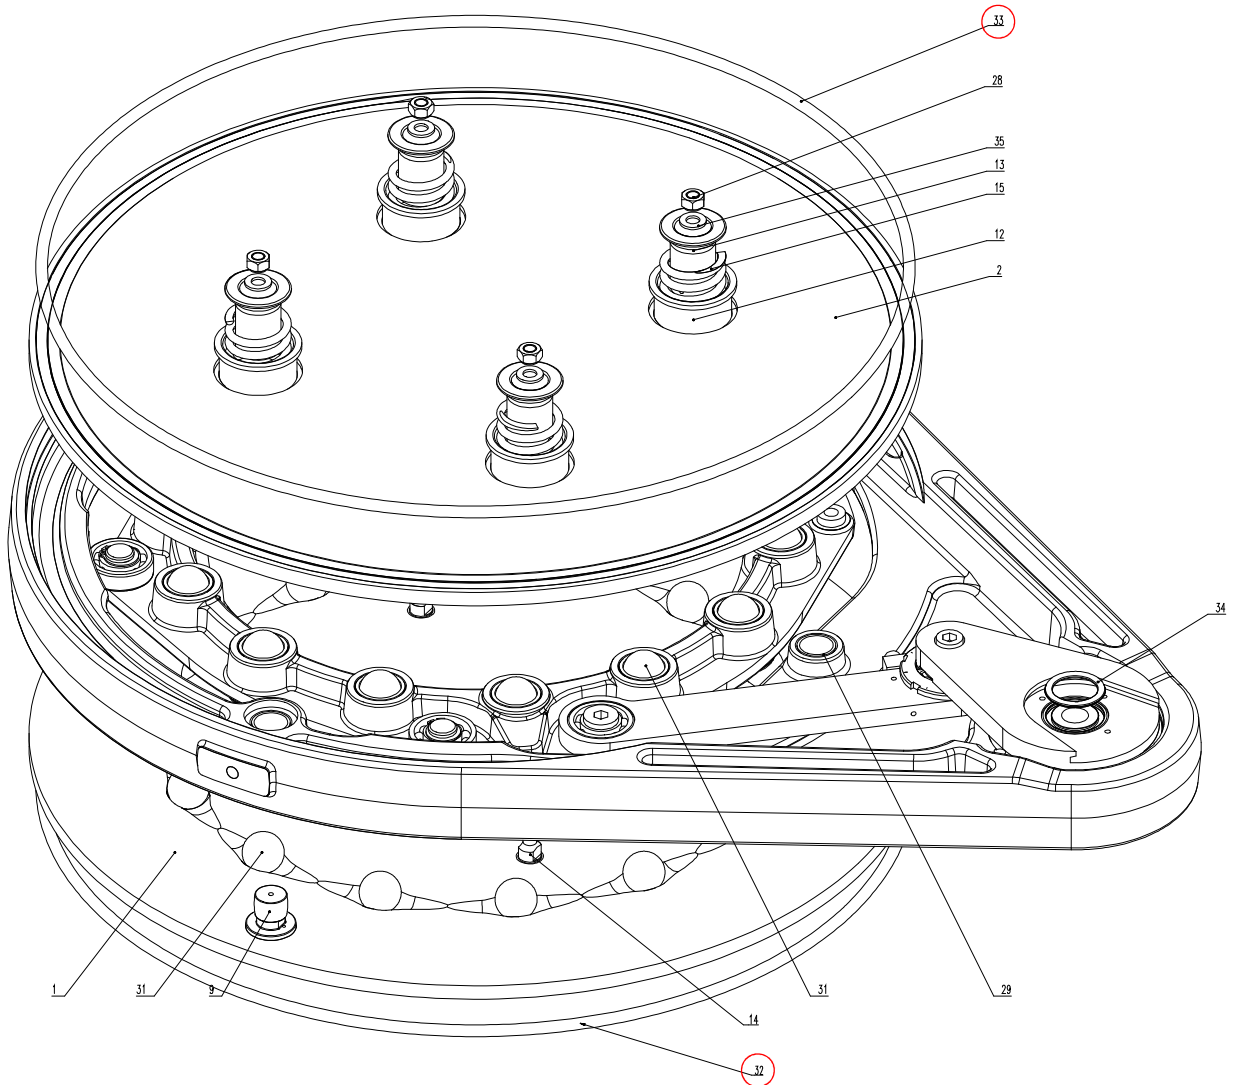

Figure 12-2
14. Remove gate mechanism (21).
15. Place gate mechanism (21) on a clean and flat surface and securely support the gate mechanism (21) to prevent any hazards.
16. Clean gate seal (32) and counter-plate seal (33); see «Figure 12-2» on page 29, with cleanroom wiper or replace the seals if necessary; use O-ring removal tool.